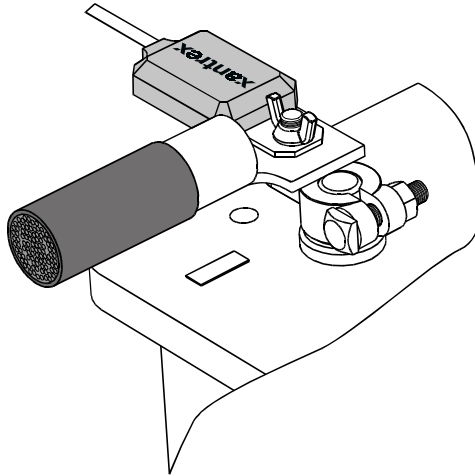

Figure 5. BTS Attached to Negative Battery Terminal
See Figure 5.
6. Mount the sensor directly on top of the negative DC wire terminal, as shown in Figure 5, and tighten the terminal nut firmly.